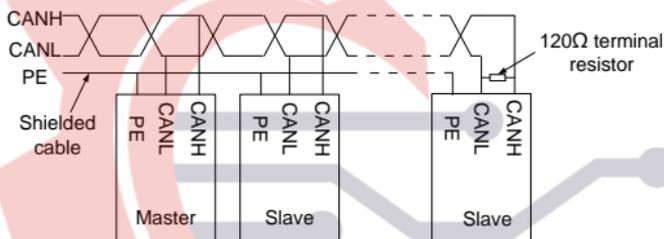

Figure 5-1 Electrical wiring diagram
Use shielding wires as the bus cable, if possible. It is recommended that you connect the shielding wire to the PE terminal of the communication card. When there are only two devices for CAN master-slave communication, both devices shall be connected to the terminal resistor. When there are more than two devices, the starting device and terminal device shall be connected to the terminal resistor. The terminal resistor of the communication card can be connected through its terminal resistor switch. Figure 5-1 shows the electrical wiring.
2. Connect the cable according to Figure 5-1, and install the terminal resistor at the head and tail properly.	Pay attention to the terminal resistors.